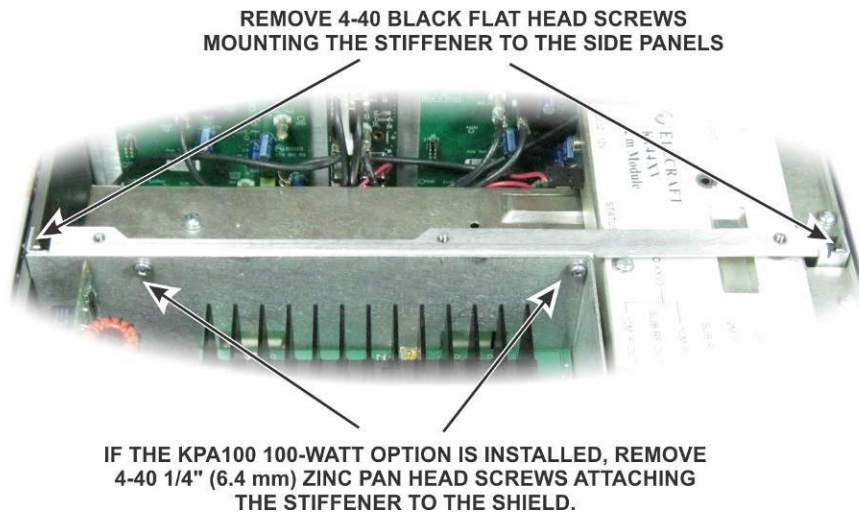

Figure 9. Removing the Chassis Stiffener
- ☐ Remove the stiffener bar that runs from side to side across the top of the chassis as shown in Figure 9. Some stiffener bars have PEM nuts permanently attached. Others use ordinary nuts that must be removed with the screws and lock washers.
Replace the chassis stiffener as shown in Figure 9 on page 7. Some stiffener bars do not have permanently-attached PEM nuts for the screws attaching them to the amplifier shield. If not, you found 4-40 nuts when the bar was removed. Place the lock washers under the nuts instead of under the screw heads.